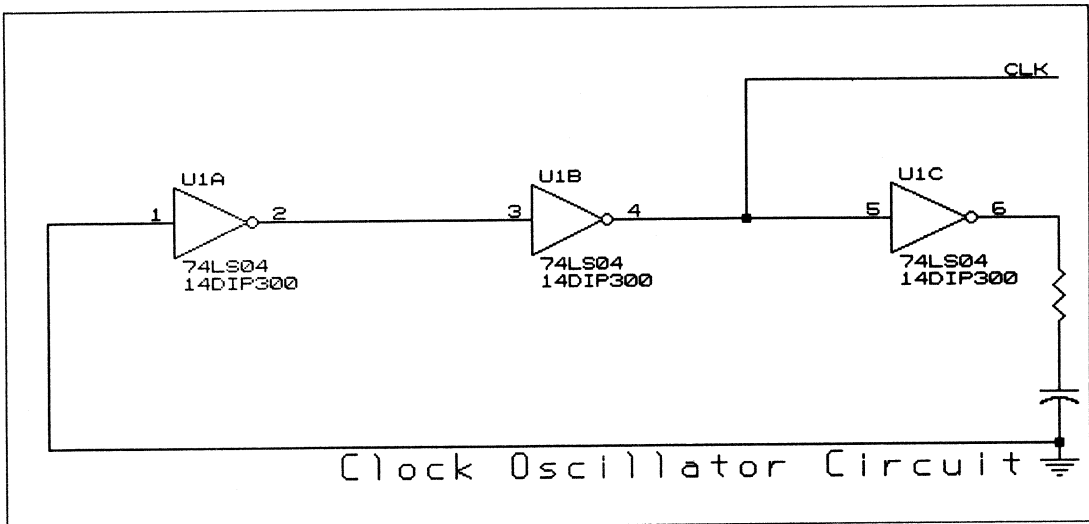

Figure 3-1. Clock oscillator circuit schematic.
Figure 3-1 shows the schematic diagram of the clock oscillator circuit you create in this chapter. Refer to this figure for placement and orientation information while capturing the clock oscillator schematic.
Compare your worksheet with figure 3-1. Your worksheet should contain the parts shown in figure 3-1, but not the wires. Most of the remaining tasks in this chapter establish signal connections between the parts you placed on the worksheet.
6. To complete the wiring, draw wires between the remaining parts as shown in figure 3-1.
A junction is also required where the wire labeled CLK (figure 3-1) connects, between the middle and right-hand inverters.